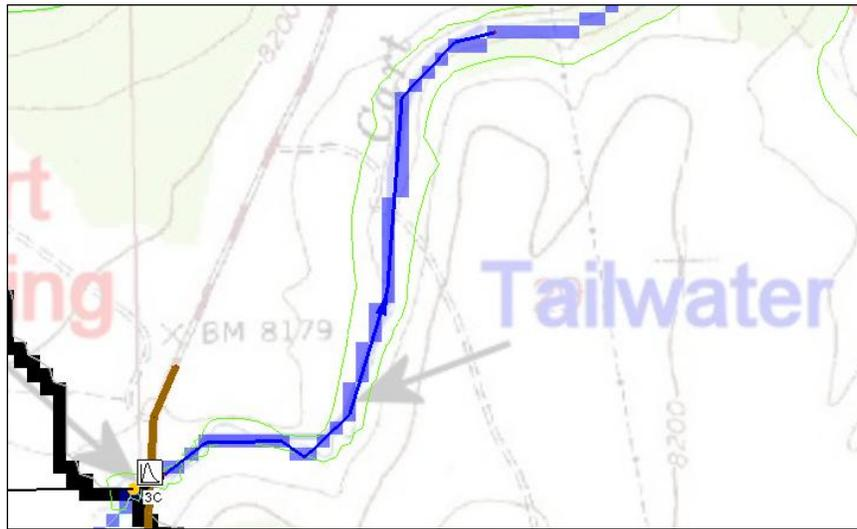

Figure 5 Hydrograph at outlet 3C, and tailwater centerline arc
A hydrograph should appear at outlet 3C (lower left, Figure 5).
- Using the GIS image as a guide, create an arc starting at the downstream culvert outlet point and proceeding downstream (Figure 5). Try to follow the flow accumulation cells on the DEM while drawing the tailwater arc. Double-click to end the arc.